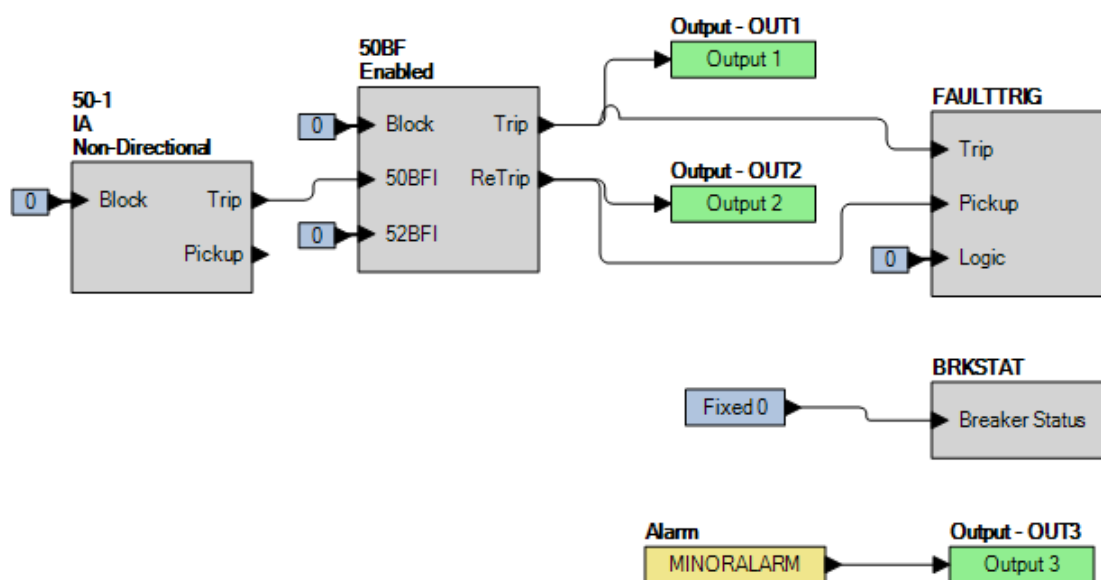

Figure 64-2. BESTlogicPlus Settings (BFI50 Current Supervised BE1-11m Trip Initiate)
Step 8: Use BESTCOMSPPlus to configure the BESTlogicPlus programmable logic shown in Figure 64-2.